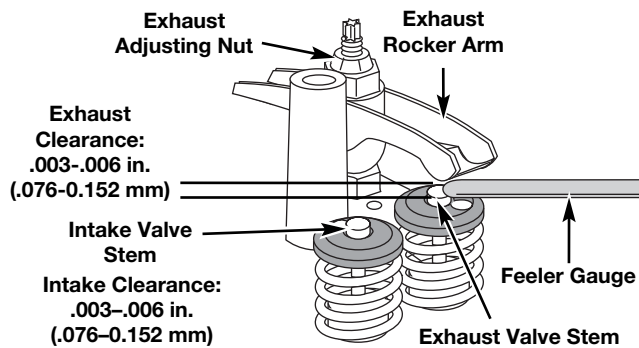

Fig. 35
The recommended clearance for the intake and exhaust is .003 – .006 in. (.076 – 0.152 mm). Use a standard automotive feeler gauge at .005 (0.127mm). The feeler gauge should slide between the rocker arm and valve stem with a slight amount of resistance, without binding. Figure 35 shows how to measure the clearance.
- a. Turn the adjusting nut using a 5/16 inch (8 mm) wrench or nut driver (Fig. 35).